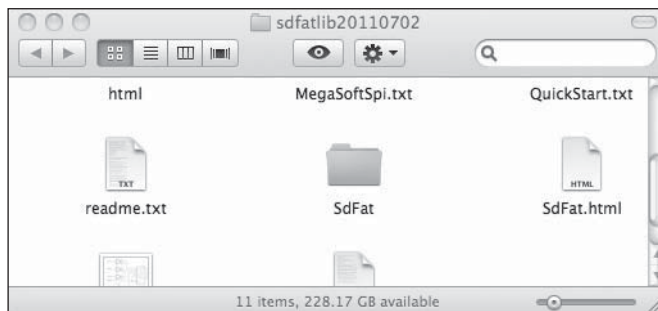
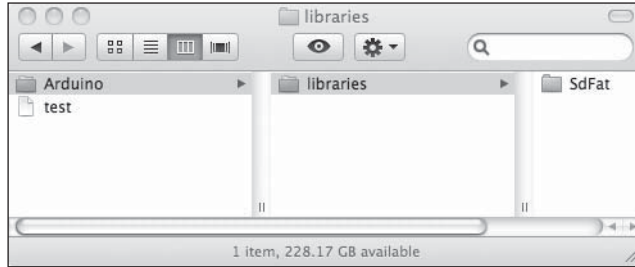

Figure 8-17: Downloaded library folder
Figure 8-18: Completed library installation
2. Double-click the downloaded file's folder to reveal its contents, and then locate the *SdFat* folder, as shown in Figure 8-17.
3. Copy the *SdFat* folder from the window shown in Figure 8-17 to your *Arduino/libraries* folder, as shown in Figure 8-18.